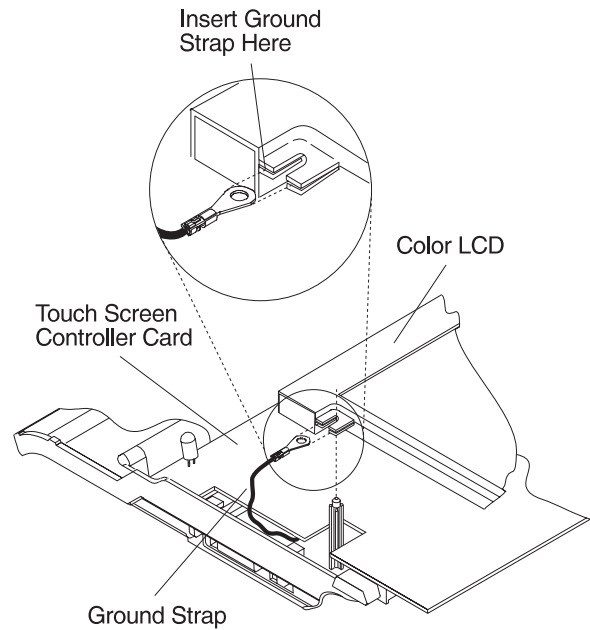

Figure 3-28. Removing the Ground Strap
- 6 If you have a color LCD, remove the ground strap. See Figure 3-28.